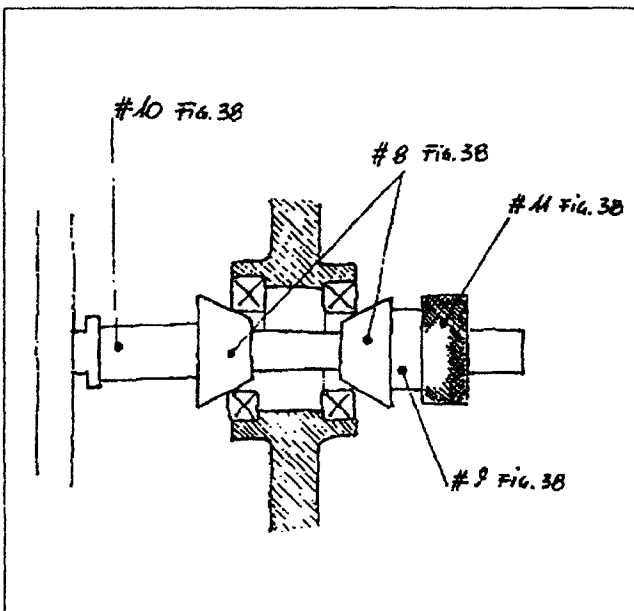

Fig.39
D. Mount the wheel as shown in Fig.39. Utilize spacers (#9,#10 Fig.38) as required.